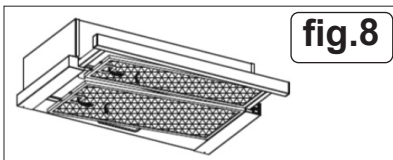

fig.8
- **GREASE MESH FILTERS (fig.8)**
• **INSTALLING GREASE MESH FILTERS** (fig.8).